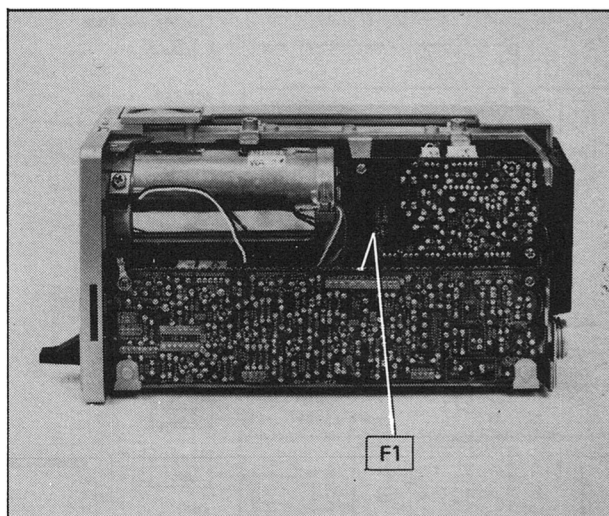

Fig 7.6 Connector **F1** (CA 4501A)
- (1) When vertical synchronization is required, connector **F1** on the Def and Power PCB (CA 4501A), shown in Figure 7.6